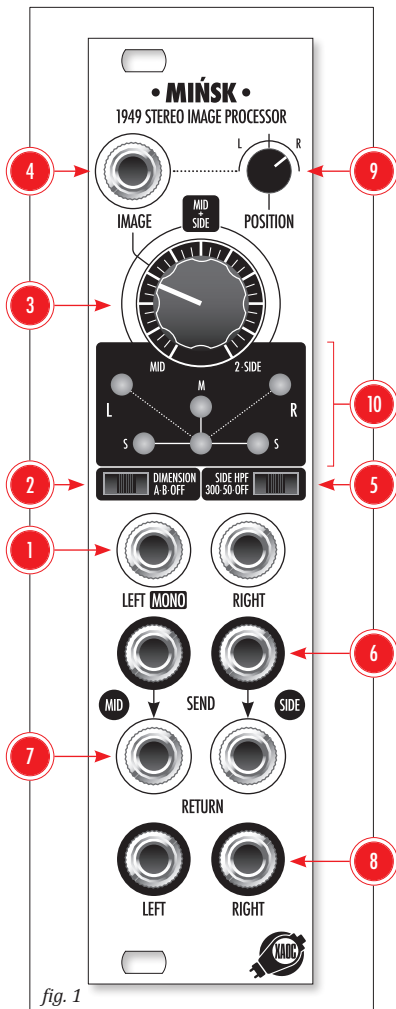

fig. 1
The front panel of Mińsk is shown in fig. 1. The stereo pair of signal inputs ① is AC-coupled and accepts all Eurorack signal levels (up to 20Vpp), however, a conservative 10Vpp level is recommended (see the "Signal Levels" section at the end of this manual). The **LEFT/RIGHT** signal pair is translated to a mid/side pair, and subject to an optional stereo enhancement process engaged by the 3-position **DIMENSION** slider switch ②. The width of the stereo image is controlled by the **IMAGE** knob ③ and external CV patched into the **IMAGE** jack ④. Mińsk offers an optional low cut (high pass) filter applied to the side signal and enabled by the **SIDE HPF** switch ⑤. The processed and enhanced pair of mid and side signals is available at the **SEND** pair of jacks ⑥. You can apply various external processing to either of these and patch the resulting signals to the **RETURN** jacks ⑦. There is an internal normalization from **SEND** to **RETURN**. If the **MID RETURN** and/or **SIDE RETURN** jacks are left unpatched, the signal from the **SEND** outputs is sent straight to the **RETURN** inputs. The mid and side pair is converted back to normal stereo and is available at the bottom pair of **LEFT** and **RIGHT** jacks ⑧. The **POSITION** knob ⑨ adjusts the **LEFT** and **RIGHT** output balance. A set of six LEDs arranged in a setup similar to the traditional goniometer ⑩ indicates the strength of the signal along virtual spatial axes.